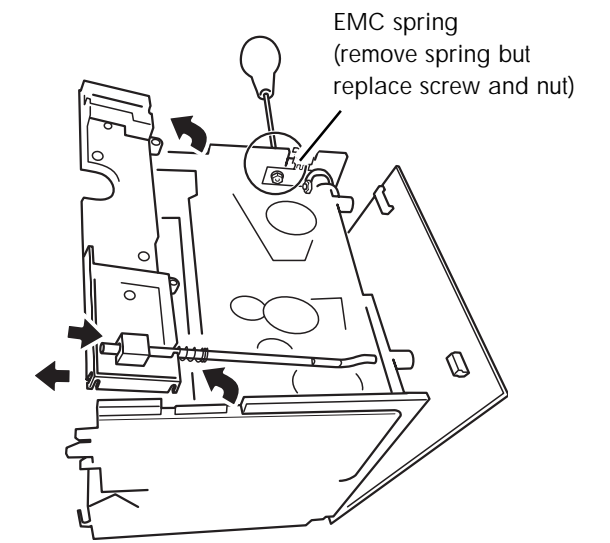

Figure 6c Bulkhead and EMC spring removal
8. As shown in figure 6c, remove the EMC spring, being sure to refit the screw and nut after removal.